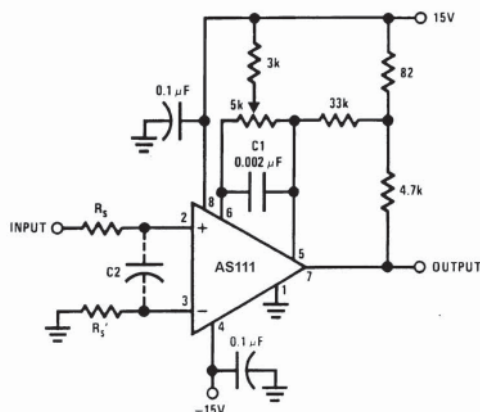

FIGURE 1. Improved Positive Feedback
However, when the input signal is a voltage ramp or a slow sine wave, or if the signal source impedance is high (1 kW to 100 kW), the comparator may burst into oscillation near the crossing-point. This is due to the high gain and wide bandwidth of comparators like the AS111. To avoid oscillation or instability in such a usage, several precautions are recommended, as shown in Figure 1 below.
inputs. If these pins are not connected to a trim-pot, they should be shorted together. If they are connected to a trim-pot, a  $0.01\ \mu\text{F}$  capacitor C1 between pins 5 and 6 will minimize the susceptibility to AC coupling. A smaller capacitor is used if pin 5 is used for positive feedback as in Figure 1.
7. When both inputs of the AS111 are connected to active signals, or if a high-impedance signal is driving the positive input of the AS111 so that positive feedback would be disruptive, the circuit of Figure 1 is ideal. The positive feedback is to pin 5 (one of the offset adjustment pins). It is sufficient to cause 1 to 2 mV hysteresis and sharp transitions with input triangle waves from a few Hz to hundreds of kHz. The positive-feedback signal across the  $82\Omega$  resistor swings 240 mV below the positive supply. This signal is centered around the nominal voltage at pin 5, so this feedback does not add to the  $V_{OS}$  of the comparator. As much as 8 mV of  $V_{OS}$  can be trimmed out, using the  $5\text{ k}\Omega$  pot and  $3\text{ k}\Omega$  resistor as shown.